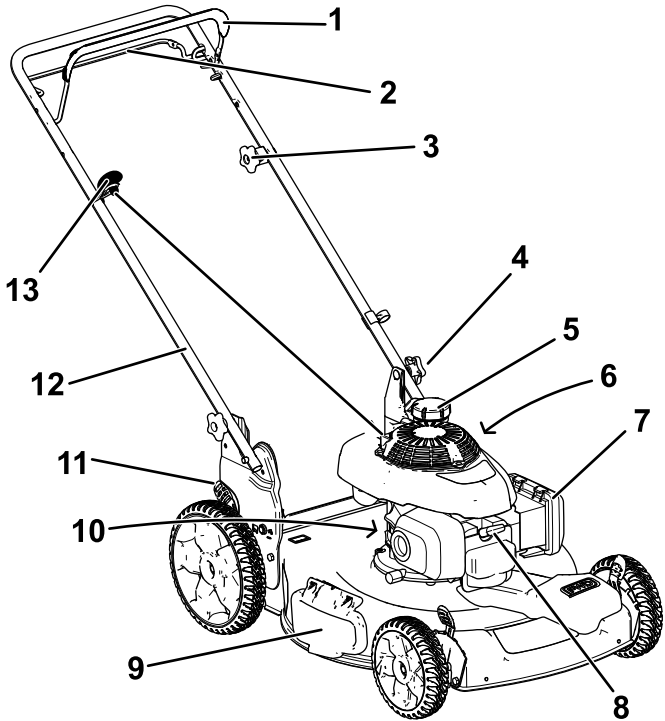

**Figure 10**
2. Hook the bottom channel of the bag onto the bottom of the frame (Figure 10).
3. Hook the top and side channels of the bag onto the top and sides of the frame, respectively (Figure 10).